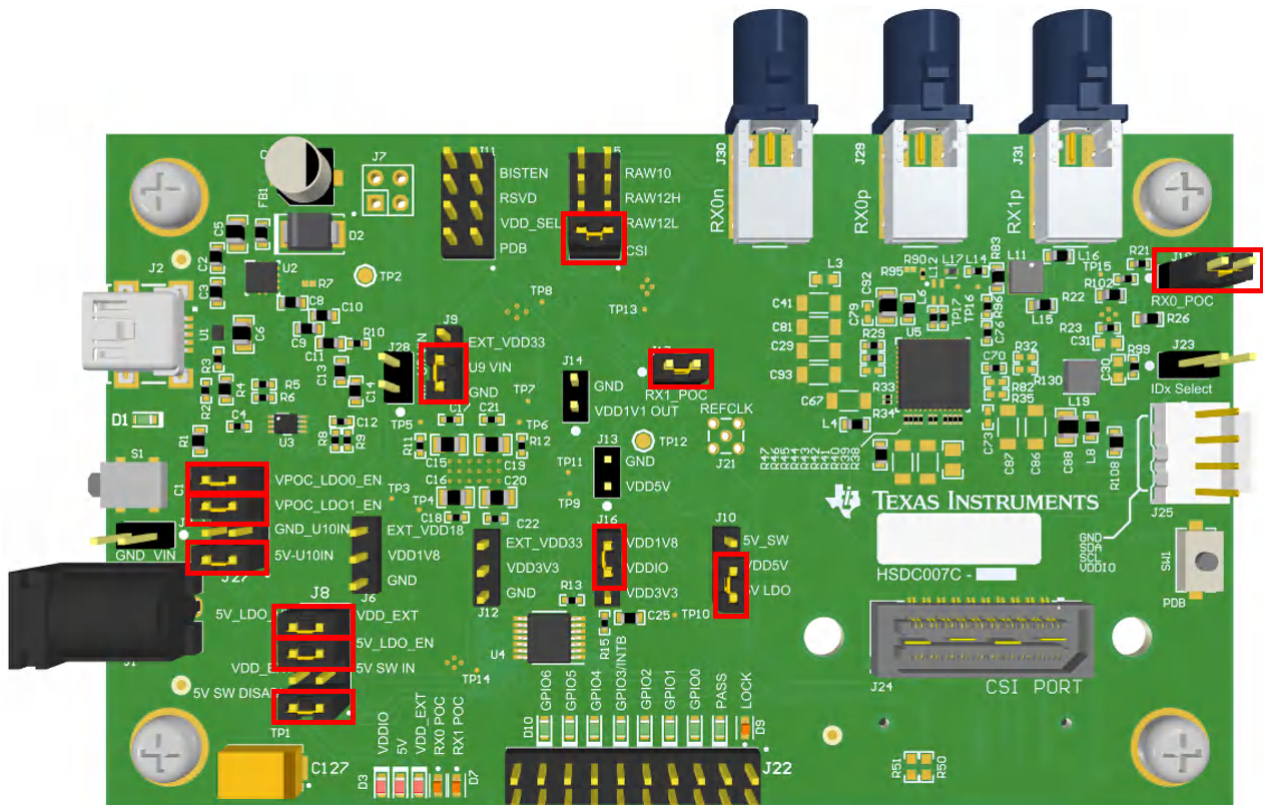

Figure 4-1. DS90UB954-Q1EVM with Jumpers Highlighted
2. Configure jumpers J8, J10, J11, J15, J16, J23, J27 to set device's operating modes. The default configuration can be seen in Figure 4-1.